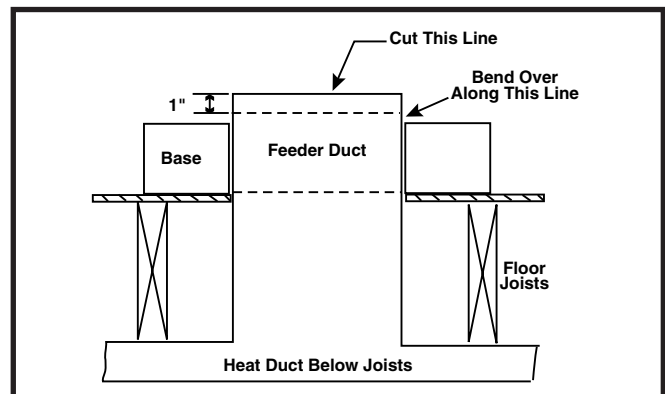

Figure 6. Feeder Duct Installation
8. Slit the corners of the feeder duct down to the top of the base pan (Figure 6). While the top of the distribution duct is pulled up with one hand, bend down each side of the feeder duct tightly to the base with the other hand. Trim the metal to allow a one inch flange over